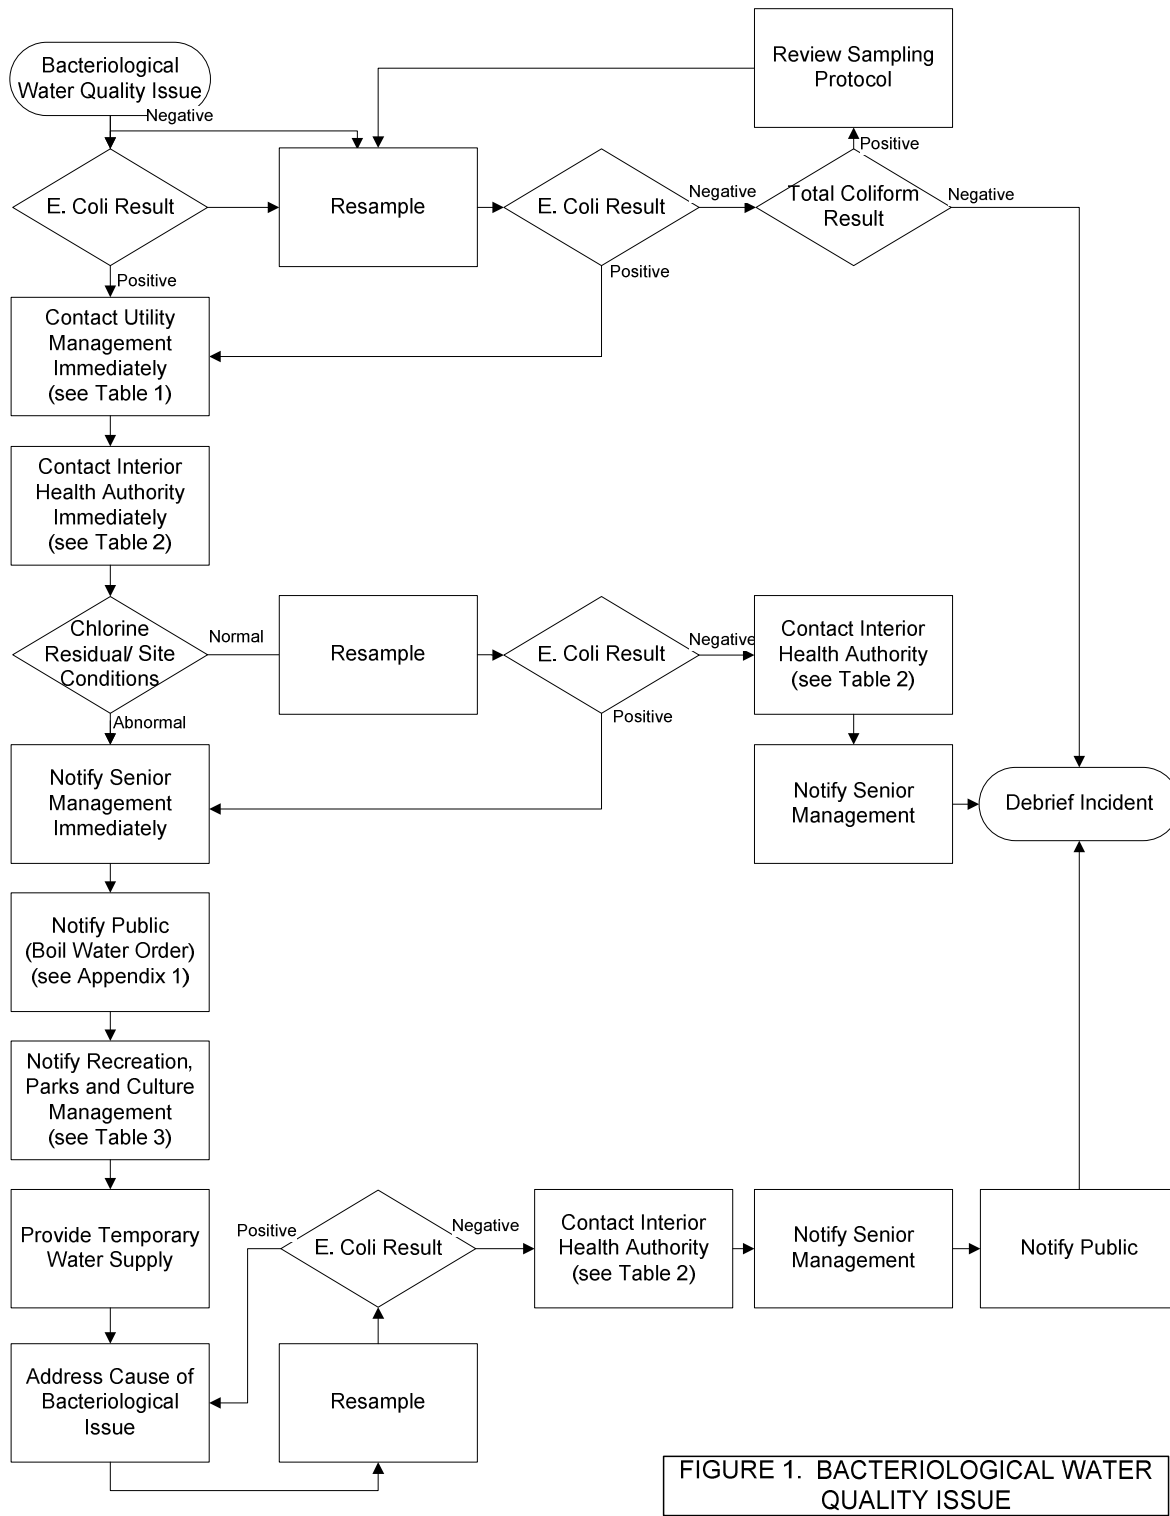

FIGURE 1. BACTERIOLOGICAL WATER QUALITY ISSUE
- Water supply is bacteriologically contaminated as indicated by positive E. coli results. (see Figure 1)
The procedures are set up so that action can be initiated by the Site Coordinator before involving other City staff and outside agencies. Site Coordinator is responsible to continue the response steps in the action plans in Figures 1 through 3 until Utility Management are available to assume responsibility for the incident.